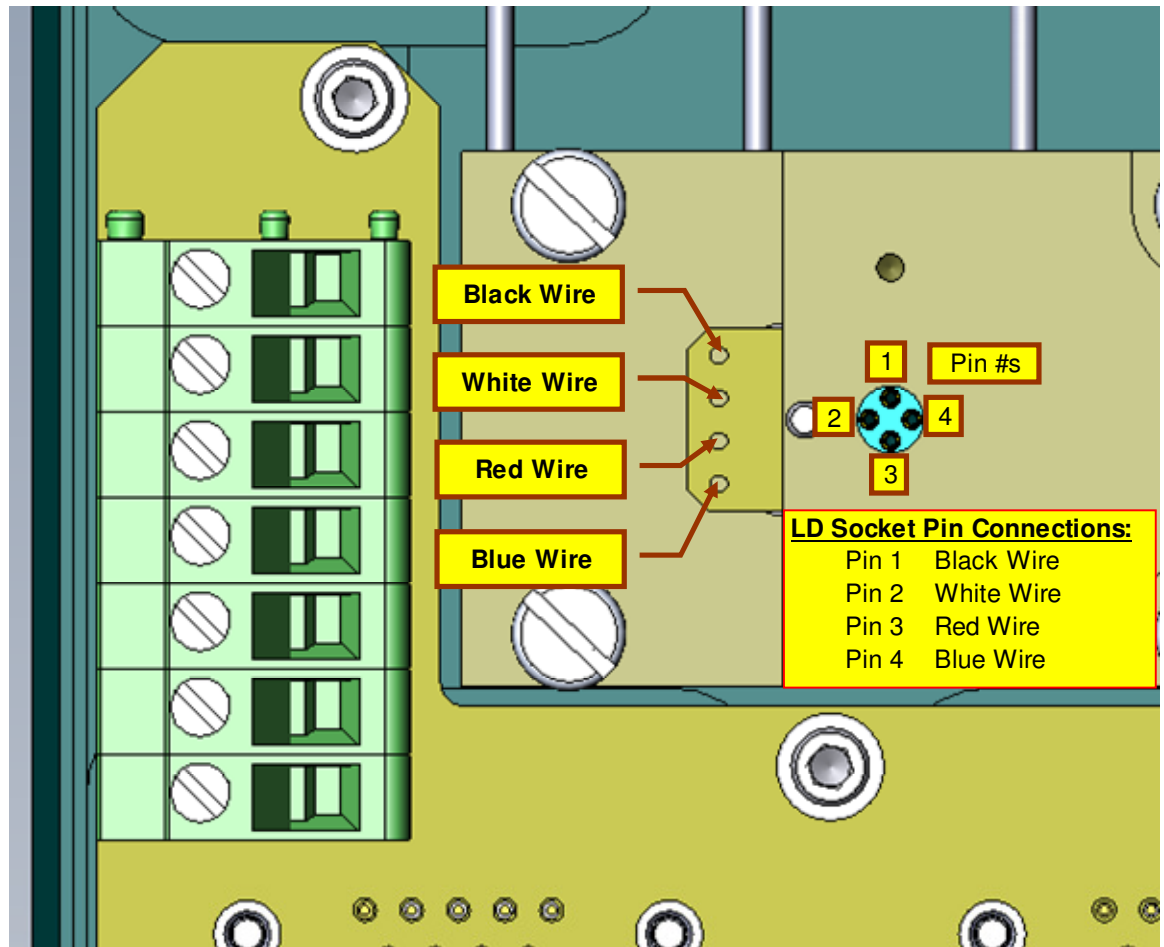

Figure 6 Cold plate socket connections
2. From the cold plate socket connections (see figure 6) the corresponding wires can be connected to the proper terminal block.
The terminal blocks are used for quick and secure connection of the wires without having to perform any soldering operations. Each terminal block has a label indicating its electrical connection. You can also refer to Figures 6 and 7, and table 3 for the description of the terminal block connections.
2. Use pins 1, 2, and 3 on the socket in the mount (see figure 6).